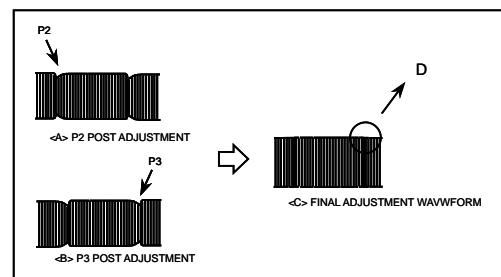

FIGURE 2> P2/P3 ADJUSTMENT WAVEFORM
1. Adjust p2 & p3 so that the the RF envelope waveform of the oscilloscope becomes C in figure 2.